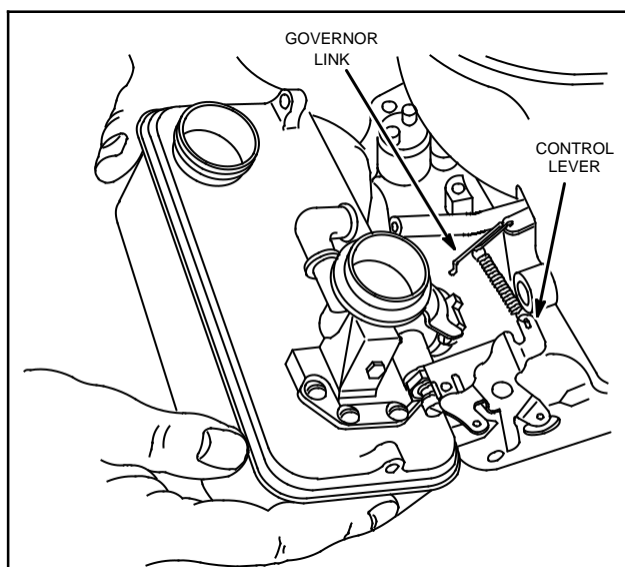

Fig. 143 - REMOVING CARBURETOR AND TANK ASSEMBLY
3. This will leave governor link and governor spring connected to governor blade and control lever, Fig. 143.